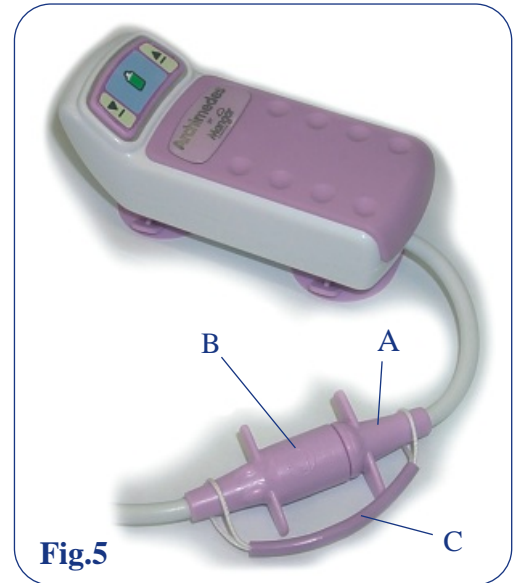

Fig.5
As a safety feature of the Archimedes bathlift, in an emergency, the seat movement can be stopped at any time by pulling the hand control away from the actuator cable. This disconnects the hand control plug (A fig 5) from the actuator cable socket (B fig.5).
In order for this safety feature to function effectively, the connection between the hand control and actuator cable must separate easily when the hand control is pulled away from the actuator cable. If the hand control is accidentally dropped outside of the bath whilst bathing, it may become detached from the actuator cable and fall out of reach. The 'Hand Control Keeper' (C fig.5) should be fitted so as to allow easy retrieval of the hand control.
- Fit the 'Hand Control Keeper' cord between the actuator cable and hand control (Figs. 5 & 8).